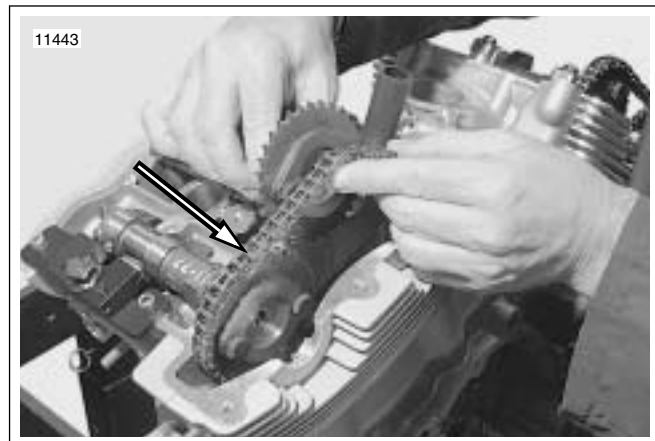

Figure 3-31. Cam Drive Chain (typical)
20. See Figure 3-31. Roll chain over cam drive gear. Lift cam and drive gear from head.